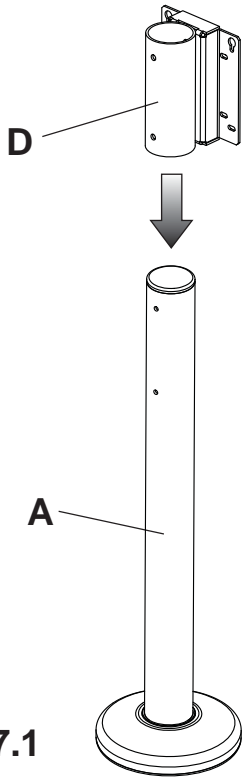

fig. 7.1
- 7 Adapter plate support box (D) is adjustable up to 4" at 1" increments. Attach adapter plate support box (D) to support tube (A) as shown in fig 7.1. Fasten two 1/4-20 x 1/2" phillips screws (H) and two split washers (G) through adapter plate support box (D) and support tube (A), as shown in fig. 7.2.